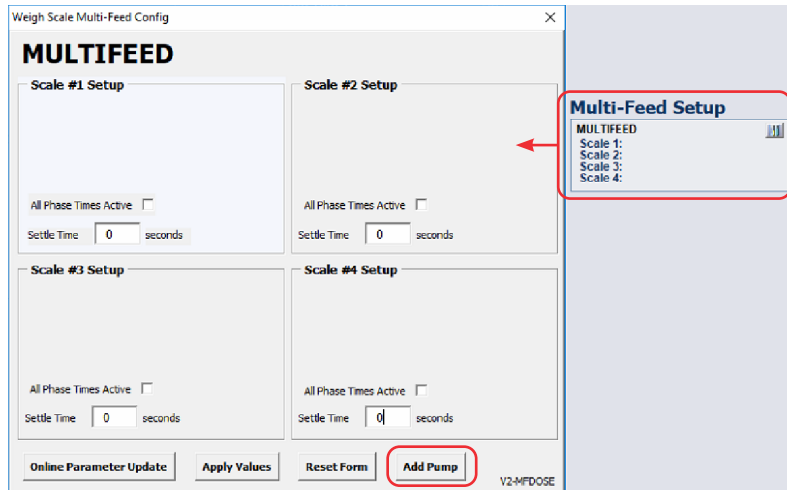

Figure 5.32. Selecting Add Pump from the Multi-Feed Configuration window.
- Click **Add Pump** (Figure 5.32).